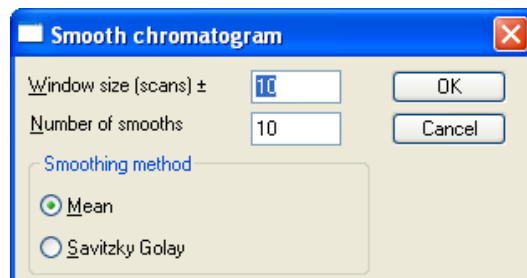

Figure 47 - Smoothing the chromatogram
9. Open the resulting TIC 2 chromatograms on a single page and smooth both with the settings shown in Figure 47.